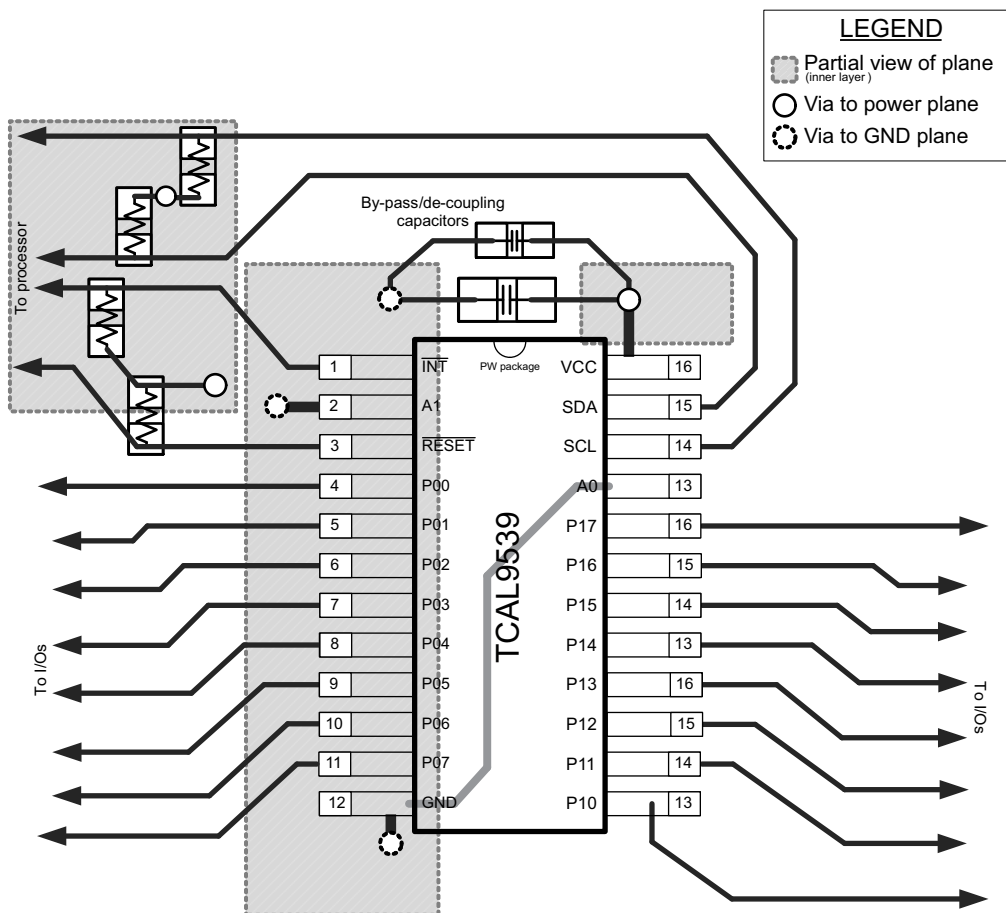

Figure 8-10. TCAL9539R Layout
In all PCB layouts, it is a best practice to avoid right angles in signal traces, to fan out signal traces away from each other upon leaving the vicinity of an integrated circuit (IC), and to use thicker trace widths to carry higher amounts of current that commonly pass through power and ground traces. By-pass and decoupling capacitors are commonly used to control the voltage on the supply pins, using a larger capacitor to provide additional power in the event of a short power supply glitch and a smaller capacitor to filter out high-frequency ripple. These capacitors should be placed as close to the TCAL9539R as possible. These best practices are shown in Figure 8-10.
For the layout example provided in Figure 8-10, it is possible to fabricate a PCB with only 2 layers by using the top layer for signal routing and the bottom layer as a split plane for power and ground (GND). However, a 4 layer board is preferable for boards with higher density signal routing. On a 4 layer PCB, it is common to route signals on the top and bottom layer, dedicate one internal layer to a ground plane, and dedicate the other internal layer to a power plane. In a board layout using planes or split planes for power and ground, vias are placed directly next to the surface mount component pad which needs to attach to power or GND and the via is connected electrically to the internal layer or the other side of the board. Vias are also used when a signal trace needs to be routed to the opposite side of the board, but this technique is not demonstrated in Figure 8-10.